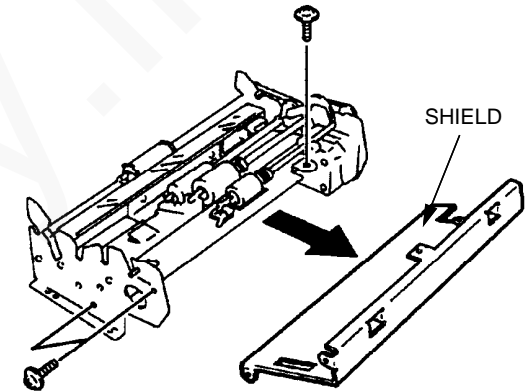

Figure 3. Shield
- a. Remove the five screws retaining the shield (figure 3).